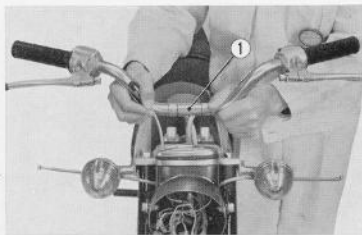

Fig. 4.6 Removing handle pipe ① Handle pipe
5. Remove the four hex bolts mounting the handle pipe between the upper and lower holders and remove the steering handle ① together with the control cables. (Fig. 4.6)